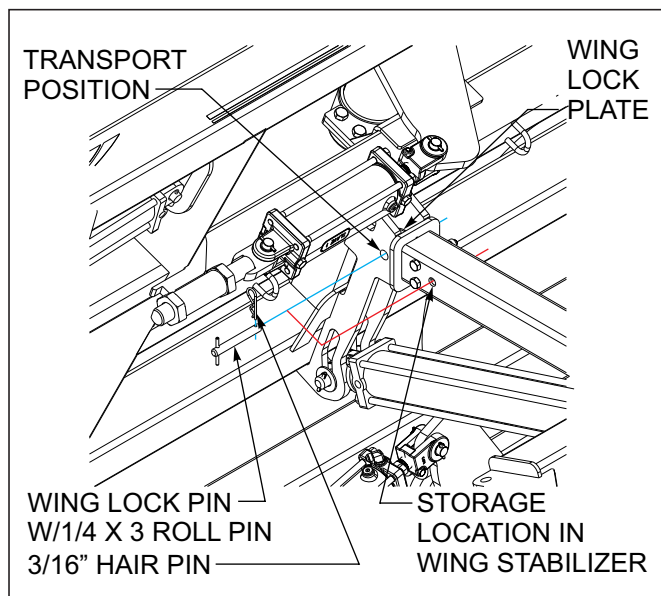

Figure 4-6: Wing Fold Transport Locks
5. To fold/unfold the VT Plus, find a level area large enough to accommodate the VT Plus when it is fully unfolded. The tractor should be stopped and not moving with the unit fully raised. Remove the wing lock pins from the mounts and install them in the storage locations (See Figures 4-6).
1. Raise the unit to take the weight off of the transport locks. Remove the transport locks from the lift cylinders (on the main frame only). Store the transport locks on the retainers above the main lift (See Figure 4-6.)
2. Remove the wing lock pins and store in the extra hole in the hinge bracket. Unfold the wings and extend the fold cylinders completely (See Figure 4-6.)